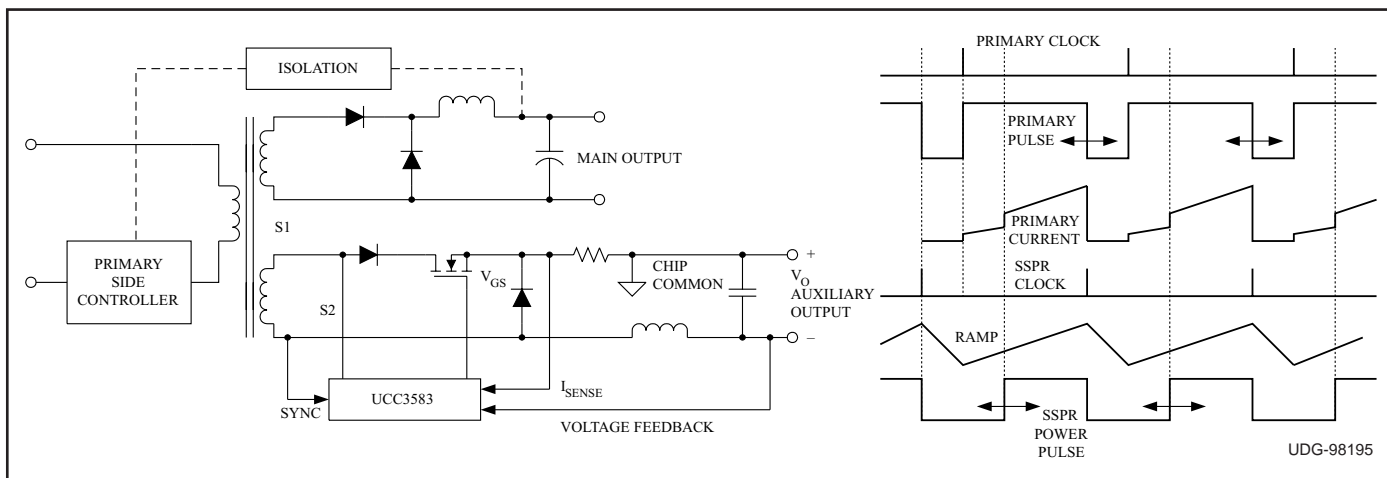
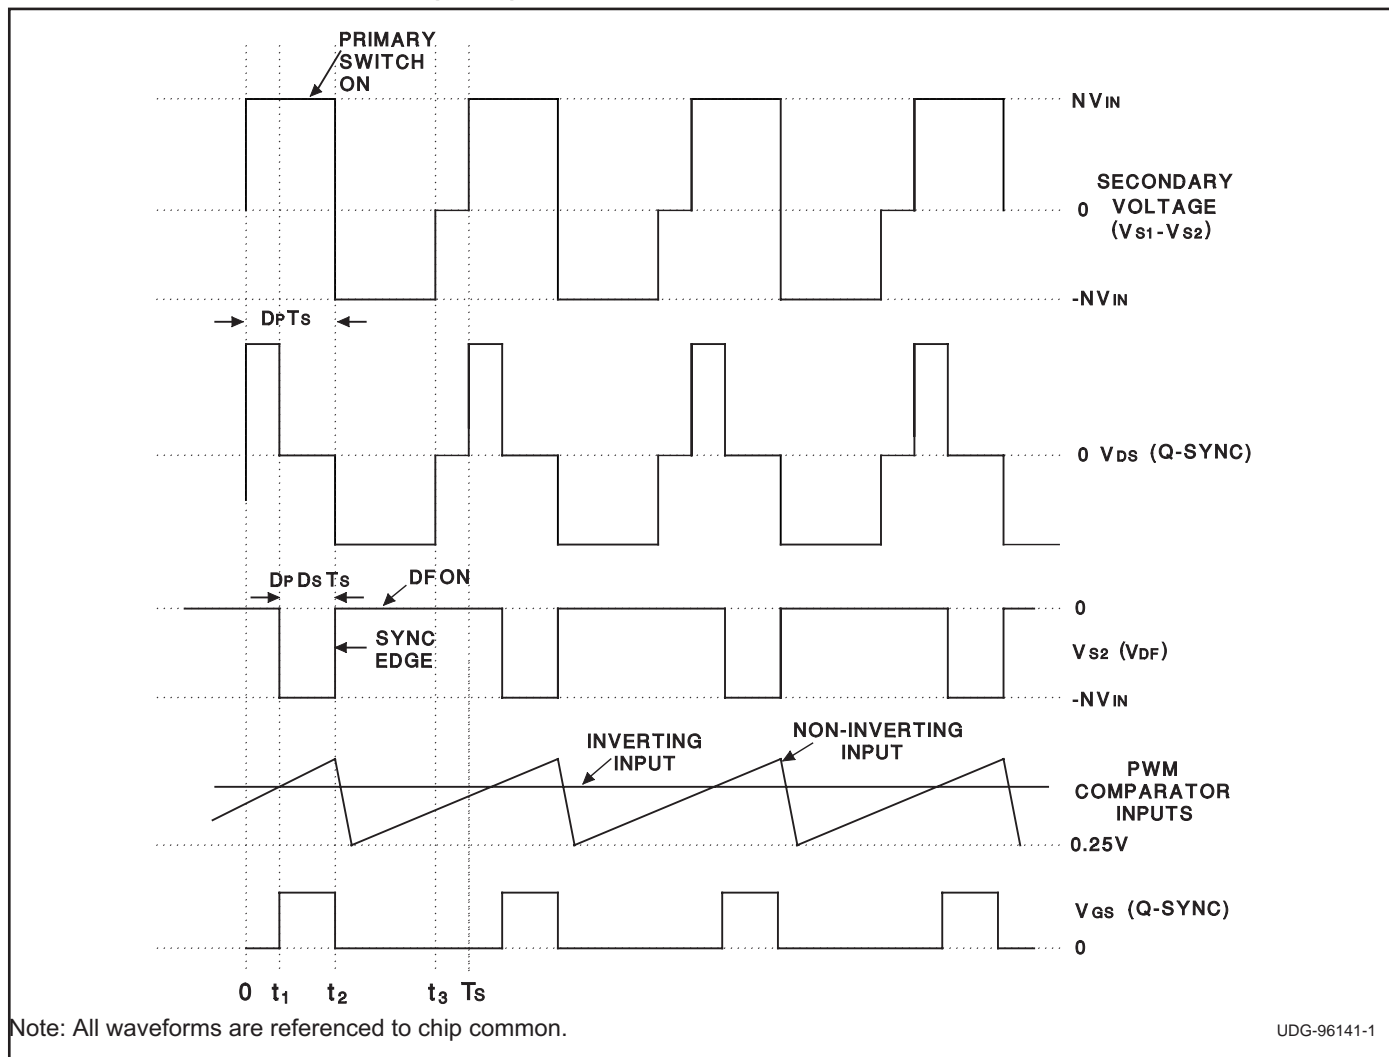
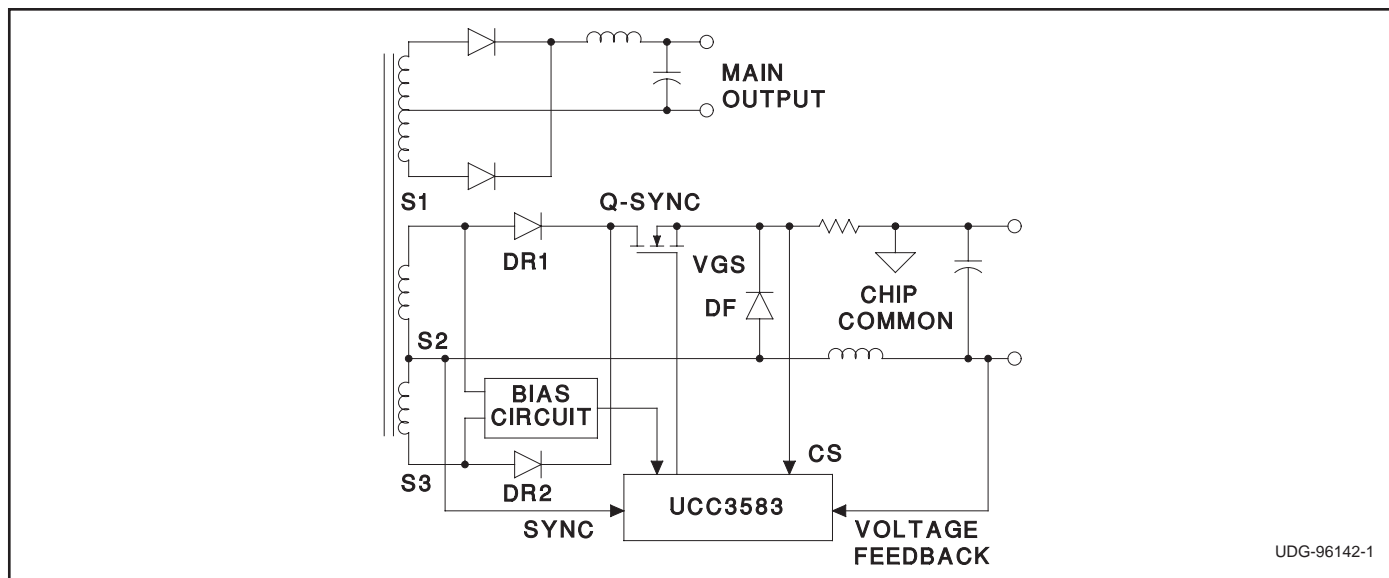

Figure 1. UCC3583 SSPR system application and typical waveforms.
Figure 2. Single ended post regulator waveforms.
Figure 3. Half-bridge synchronous post regulator application.
**SYNC:** Synchronization input pin. It is connected to a signal representative of the secondary power pulse. One possible implementation is to use a resistive divider between terminal S2 of the secondary winding shown in Figure 1 and REF for generating the input to the SYNC pin. The synchronizing comparator is referenced to 0.5V and has  $\pm 500\text{mV}$  of hysteresis. The trip levels are approximate 1.0V and 0.0V. The designer should prevent the SYNC pin from exceeding 0.3V below ground as this will turn on the ESD diode.
and terminations easier to implement. Typical set-up and circuit waveforms of the UCC3583 system application are shown in Figure 1. Figure 2 shows waveforms for a single ended output rectifier application of the UCC3583 shown on page 1. The UCC3583 can also be used in half bridge rectifier applications as shown by the circuit and waveforms depicted in Figures 3 and 4. Referencing the IC to the positive output terminal creates a requirement for a floating bias voltage for the IC which can be referenced to the same positive voltage terminal. Possible implementations of deriving the floating bias voltage are shown in Figure 5.